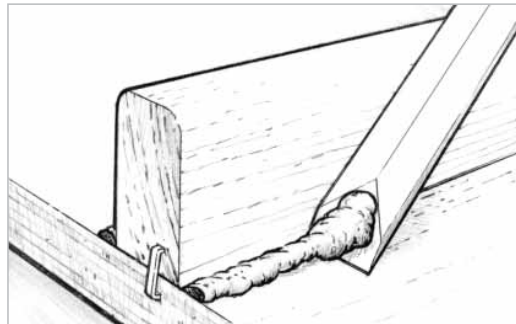

Figure 5-11 Remove excess epoxy before it begins to gel. A sharpened mixing stick makes an excellent cleanup tool.
4. Remove or shape excess adhesive that squeezes out of the joint as soon as the joint is secured with clamps. An 804 Reusable Mixing Stick or a wooden mixing stick with one end sanded to a chisel edge is an ideal tool for removing the excess (*Figure 5-11*).